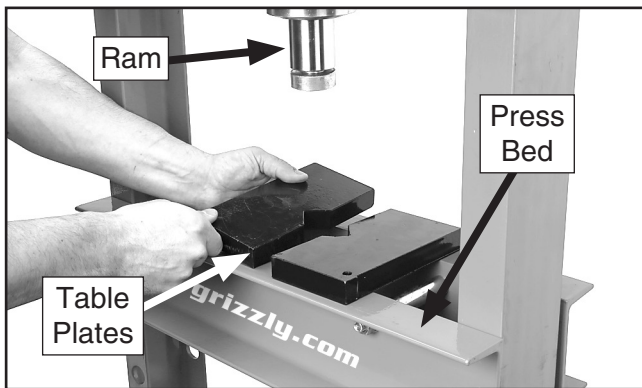

Figure 14. Positioning table plates on press bed.
3. Place table plates on press bed (see **Figure 14**), and place workpiece onto blocks.